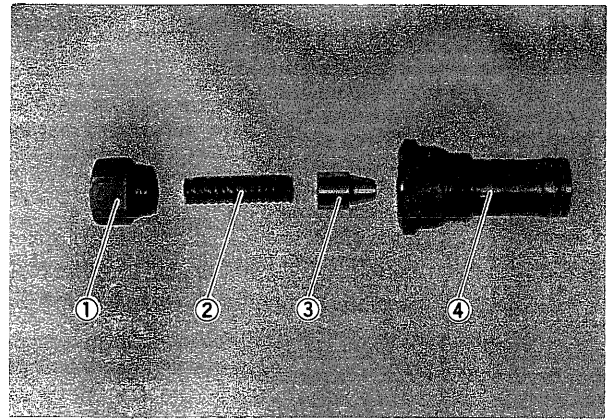

Fig. 20
- 6) Take off cap (1) and pull off spring (2) and valve (3) from valve body (4). (Fig. 20)